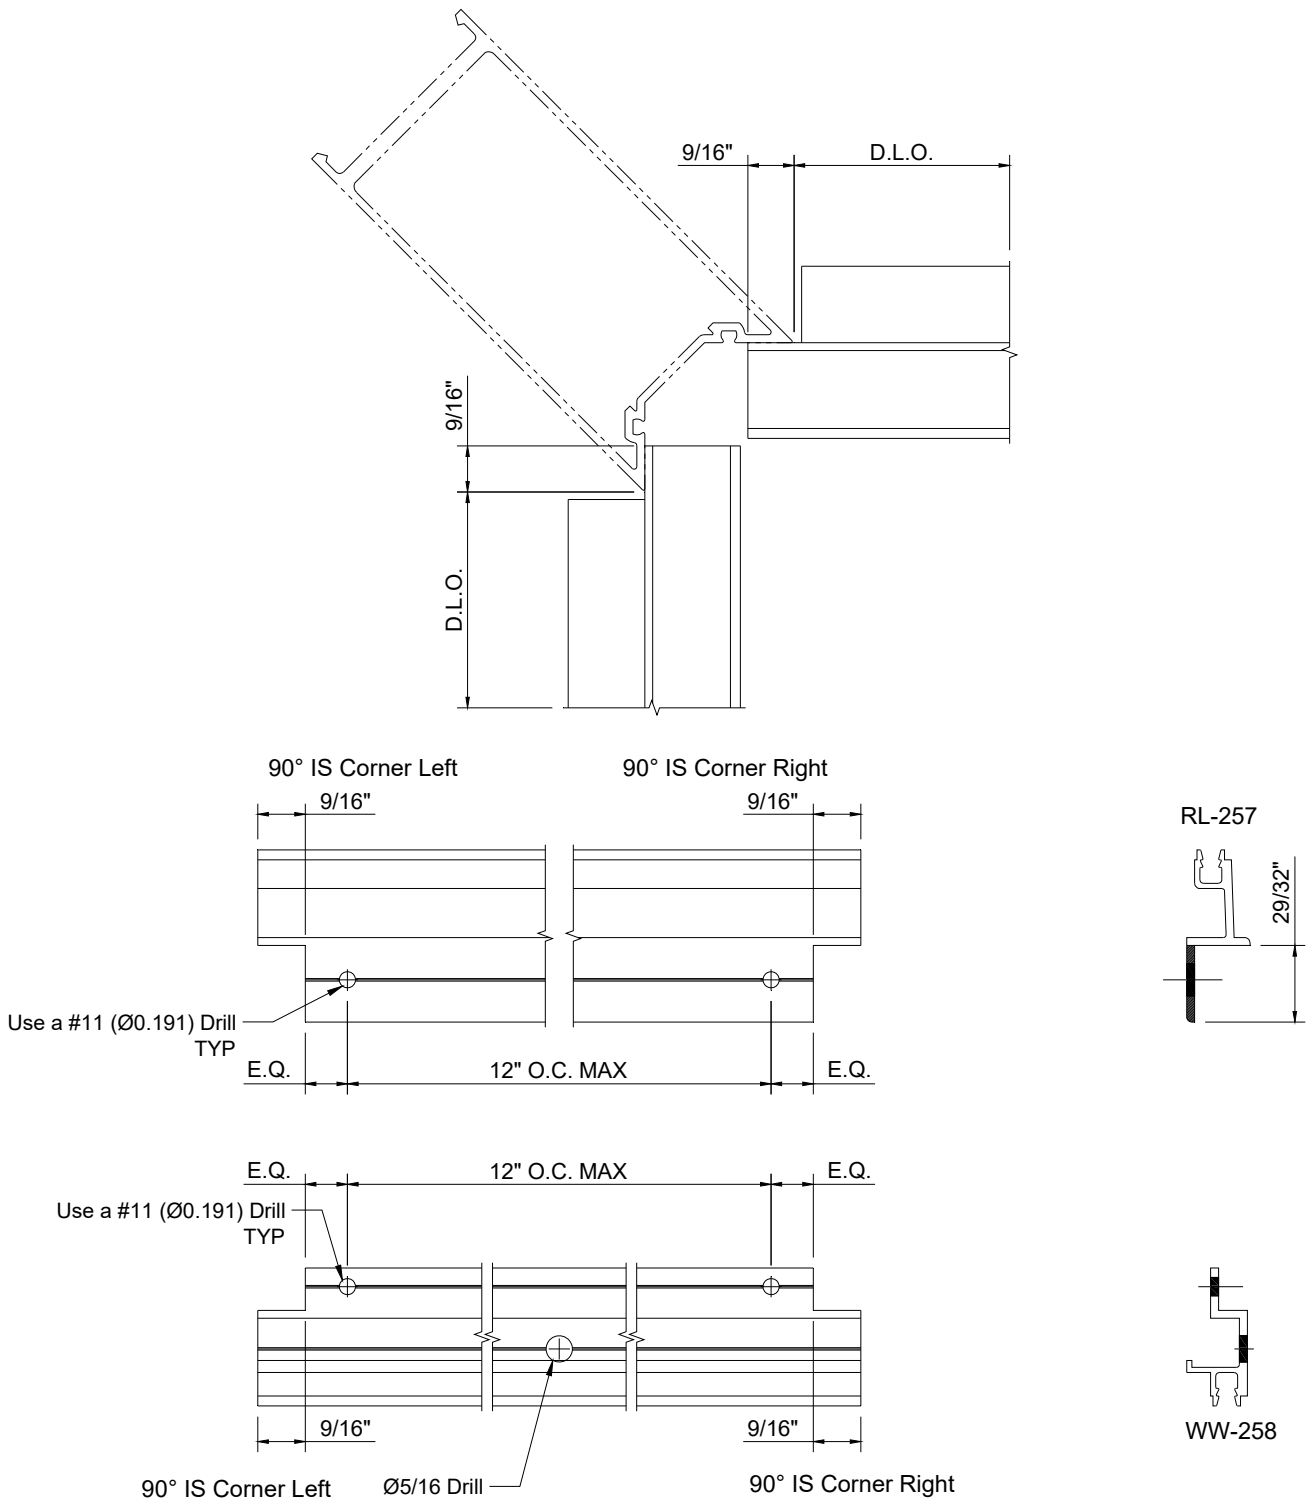

Figure 23: Horizontal Expansion Gasket Retainers at 90° Inside Corner
- 7.8 Fabricate **RL-257** and **WW-258** at 90° inside corner as required per, *Figure 23*.